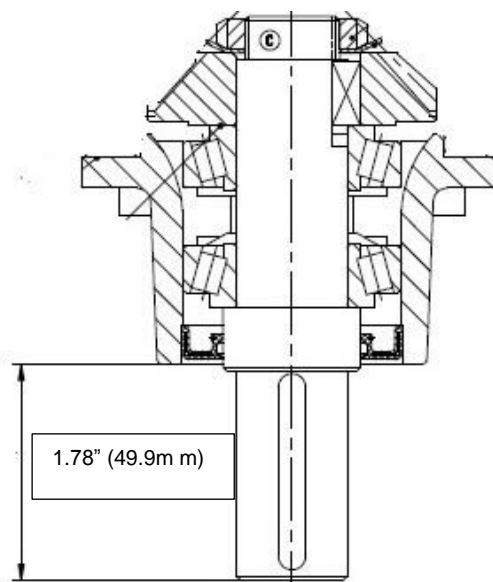

Figure 90
2. Install output shaft in the housing. Press the shaft until there is 1.78" (49.9mm) of the shaft past the end of the housing. Figure 90